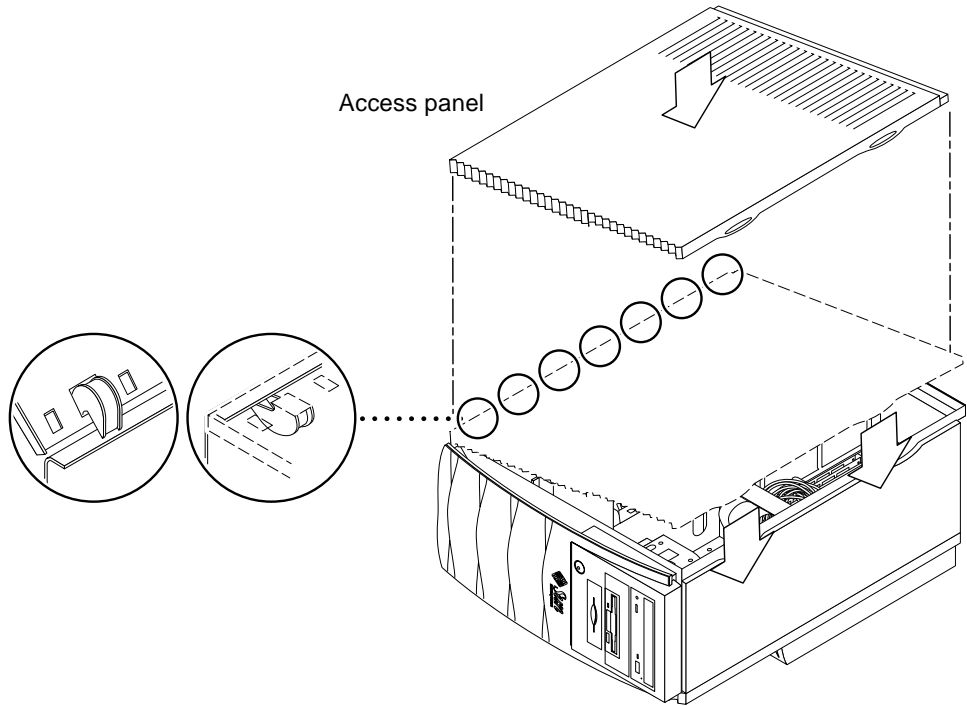

FIGURE 9-1 Replacing the Access Panel
2. Hold the access panel, centering it over the chassis opening (FIGURE 9-1).